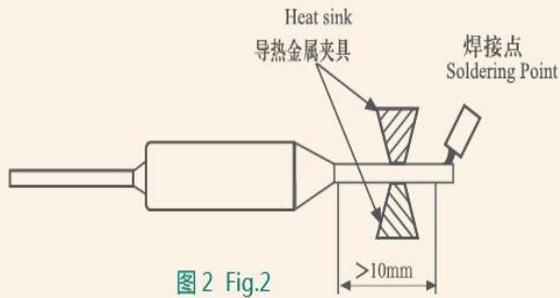

图2 Fig.2
- B. 若温保要用焊锡或浸锡方式与线路连接时，焊锡或浸锡处最好距温保本体 10mm 以上，在 300℃ 状况下焊锡或浸锡时间应控制在 1 ~ 2 秒内为宜，若使用低于 113℃ 的保险丝尽可能不要采用焊锡或浸锡方式。无论是烙铁焊、电焊还是浸锡，都应尽量在短时间内完成，并且要一边焊接一边散热，防止由于受热而发生早断、开路。（见图 2）
- B. If soldering connection is necessary, TCO leads should be heat sink, soldering point should be at least 10mm away from the body of TCO and soldering time should be controlled within 1–2 seconds. It is recommended not to used soldering connection if the rating of TCO is less then T_f 113 ~C, to avoid damage to the TCO. (see Fig. 2)